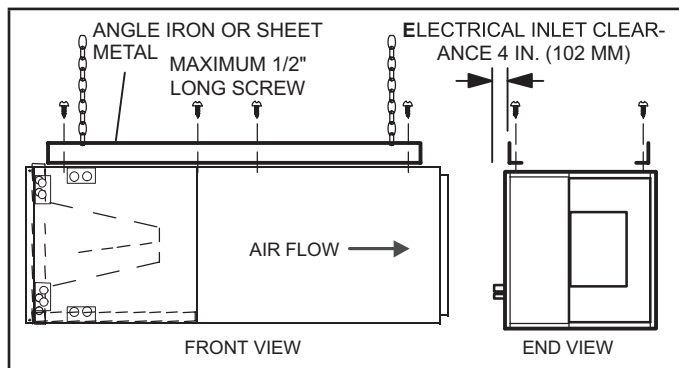

FIGURE 7. Suspending Horizontal Unit
- 5 - If the unit is suspended, the entire length of the cabinet must be supported. If you use a chain or strap, use a piece of angle iron or sheet metal attached to the unit (either above or below) to support the length of the cabinet. Use securing screws no longer than 1/2 inch to avoid damaging the coil or filter. See FIGURE 7. Use sheet metal screws to connect the return and supply air plenums as required.
- 12 - If suspending the unit, it must be supported along the entire length of the cabinet. If using chain or strap, use a piece of angle iron or sheet metal attached to the unit (either above or below) so that the full length of the cabinet is supported. Use securing screws no longer than 1/2" to avoid damage to coil or filter, as illustrated in FIGURE 7. Connect return and supply air plenums as required using sheet metal screws.